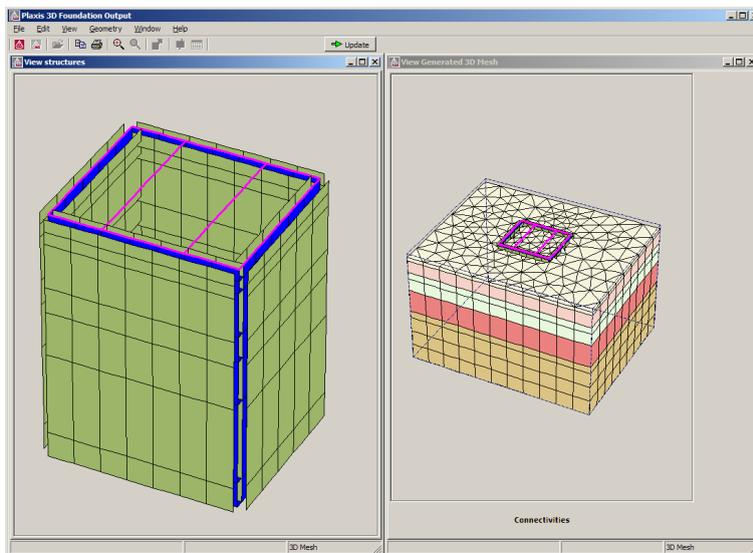

Figure 7.5 Preview of the generated 3D mesh
- From the *Mesh* menu, select *Refine global*. This will globally refine the mesh and the Output program will be opened to present the results. Click <Update> to return to the main draw area and select the three clusters of the excavation pit and the cluster of the load area. Hold down the <Shift> key to select multiple clusters. Choose *Refine cluster* from the *Mesh* menu and the Output program will show the generated mesh (see Figure 7.5).